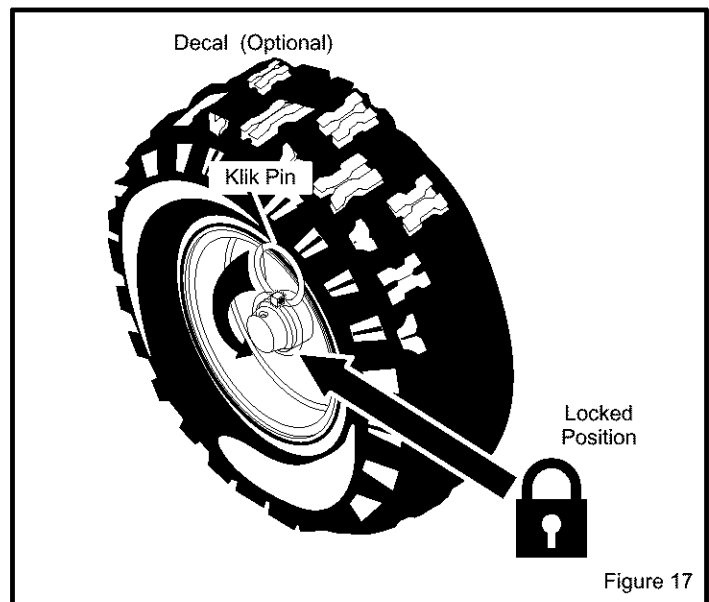

Figure 17
- The left hand wheel is secured to the axle with a klik pin. This unit was shipped with this klik pin in the locked position. (Figure 17).